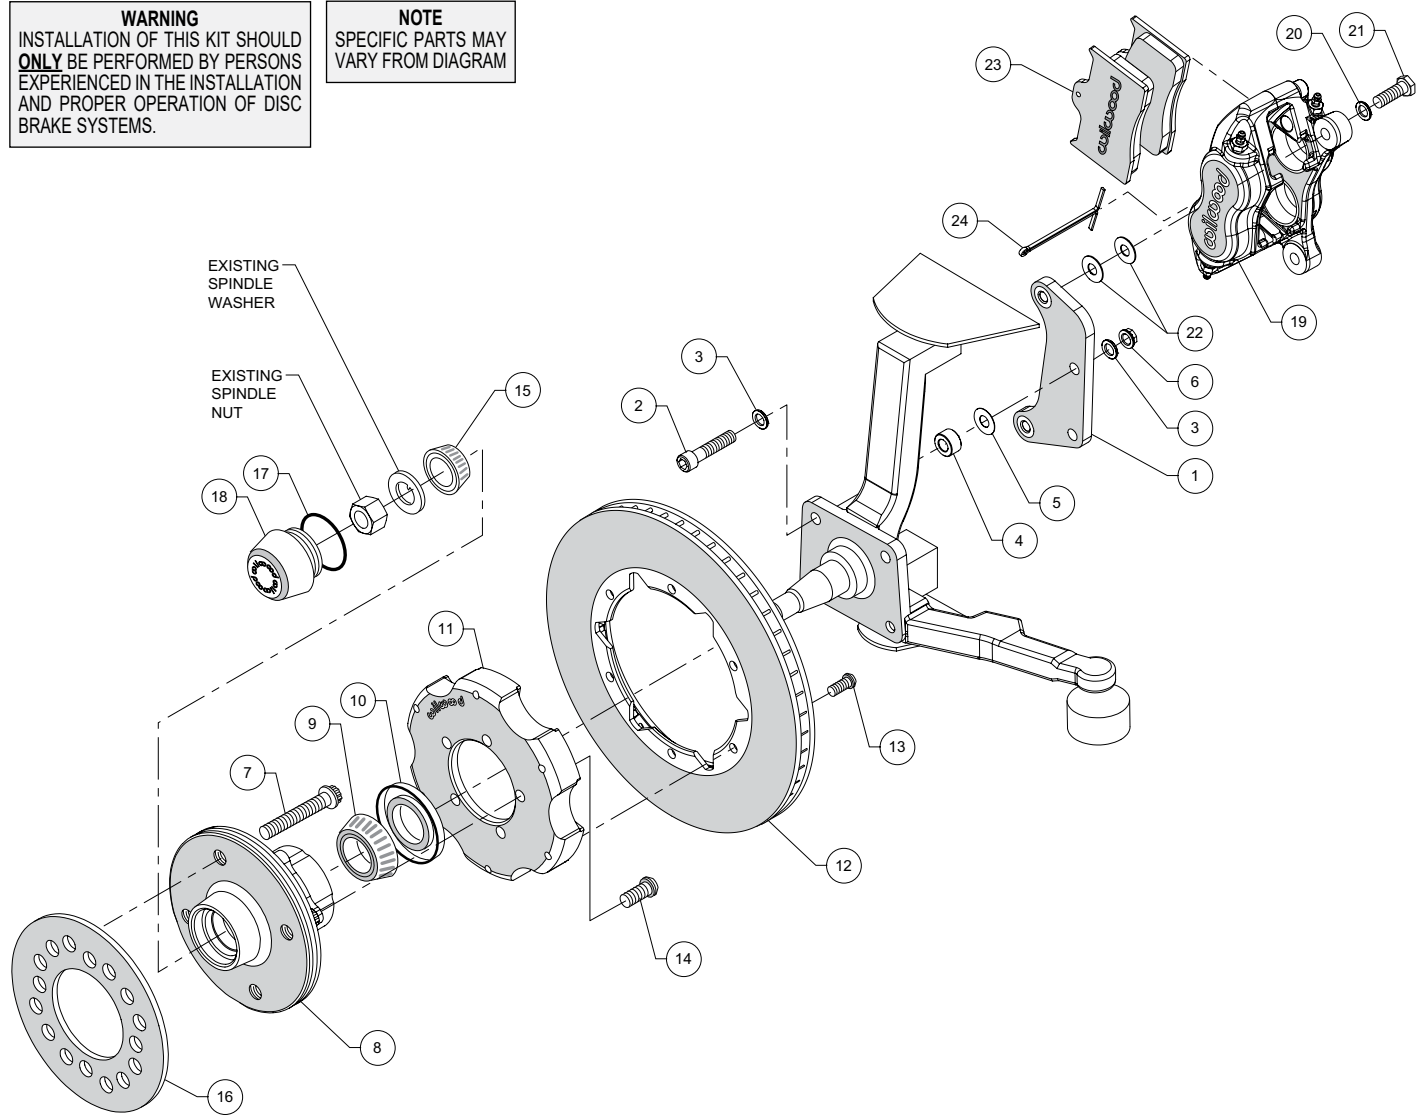
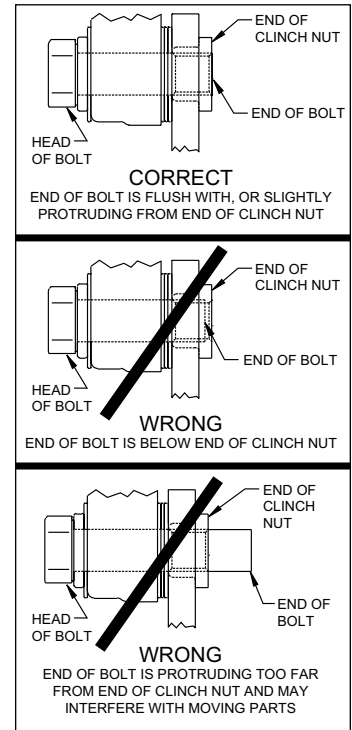

Figure 1. Typical Installation Configuration
Figure 3. Clinch Nut Engagement Diagram
NOTE: Numbers in parenthesis refer to the parts list and Figure 1 on the preceding pages.
CAUTION: All mounting bolts must fully engage clinch nuts. Be sure to check that all bolts are either flush or protruding through flanged side of clinch nut after shimming, Figure 3.
- The caliper mount bracket (1) should initially be installed with clean, dry threads on the mounting bolts. Orient the bracket as shown in Figure 1 and Photo 1, and install using bolts (2), washers (3) and nuts (6). Place one spacer (4) and one shim (5) between the spindle to start, Figure 1. Ensure that the flanged heads of the clinch nuts in the bracket are facing outboard, Photo 1. Temporarily tighten the mounting nuts. **NOTE:** The bracket must fit squarely against the mounting points on the spindle. Inspect for interference from casting irregularities, machining ridges, burrs, etc.
- Check that the bracket is aligned parallel to the rotor by assembling and installing hub/rotor per steps below, Photo 2. If not, add or subtract shims (5) between spacer and bracket, Figure 1.
- Install wheel studs (7) into the hub (8), Photo 3. Torque to 77 ft-lb.
- Pack the large inner bearing cone (9) with high temperature disc brake bearing grease (available from your local auto parts store) and install into the backside of the hub (8), Photo 4.
- Install the grease seal (10) by pressing into the backside of the hub (8), flush with the end of the hub, Photo 5.
- Mount the hat (11) to the hub (8) using bolts (14), as shown in Figure 1 and Photo 6. Apply red *Loctite*® 271 to the bolt threads and torque to 45 ft-lb using a criss-cross pattern.
- Orient the rotor (12) and the hat/hub assembly (8/11) as shown in Figure 1 and Photo 7. Attach the rotor to the hat using bolts (13). Using an alternating sequence, apply red *Loctite*® 271 to the threads, and torque to 25 ft-lb.
- Pack the small outer bearing cone (15) with high temperature disc brake bearing grease and install into hub (8). Slide the hub/rotor/hat assembly onto the spindle. Secure using OEM spindle washer and spindle nut, Photo 8. Adjust bearings per OEM specifications. Install saved OEM nut lock (if any) and a new cotter pin (not supplied).
- Screw dust cap (18) into hub (8), Photo 9. Friction created by the o-ring (17) on the dust cap keeps it from unscrewing.
- NOTE:** Please reference the caution statement at the beginning of the assembly instructions. Mount the caliper (19) onto the caliper mounting bracket (1) using bolts (21) and washers (20), as shown in Figure 1. Initially place two .035" thick shims (22) on each bolt between the caliper and the bracket, Photo 10. Temporarily tighten the mounting bolts and view the rotor (12) through the top opening of the caliper. The rotor should be centered in the caliper, Photo 11. If not, adjust by adding or subtracting shims between the bracket and the caliper. Always use the same amount of shims on each of the two mounting bolts. **NOTE:** The end of each bolt must be flush with or slightly protruding from the head of the clinch nut, as shown in Figure 3. If necessary place spare shims between washer (20) and caliper mounting ear to achieve the proper clinch nut engagement. Once the caliper alignment and clinch nut engagement are correct, remove the bolts one at a time, apply red *Loctite*® 271 to bolt threads, and torque to 40 ft-lb.
- Install the disc brake pads (23) into the caliper, with the friction material facing the rotor (12), and secure in place using cotter pin (24), Photo 12.
- Install wheel spacer (25) as shown in Figure 1 and Photo 13. Temporarily install wheel and torque lug nuts to manufacturer's specification. Ensure that the wheel rotates freely without any interference. Remove wheel for next step. **NOTE:** Wheel spacer (25) **MUST** be used if any wheel contact surfaces overhang the outside diameter of the hub face. See warning on page 3.